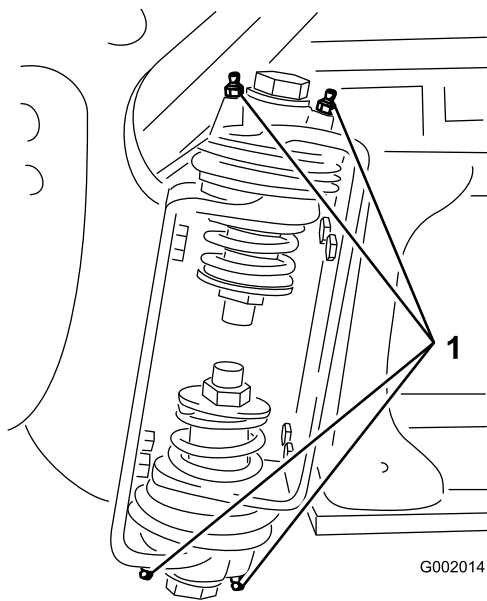

Figure 24
2. Pump grease into the bearing or bushing at each fitting Figure 24.